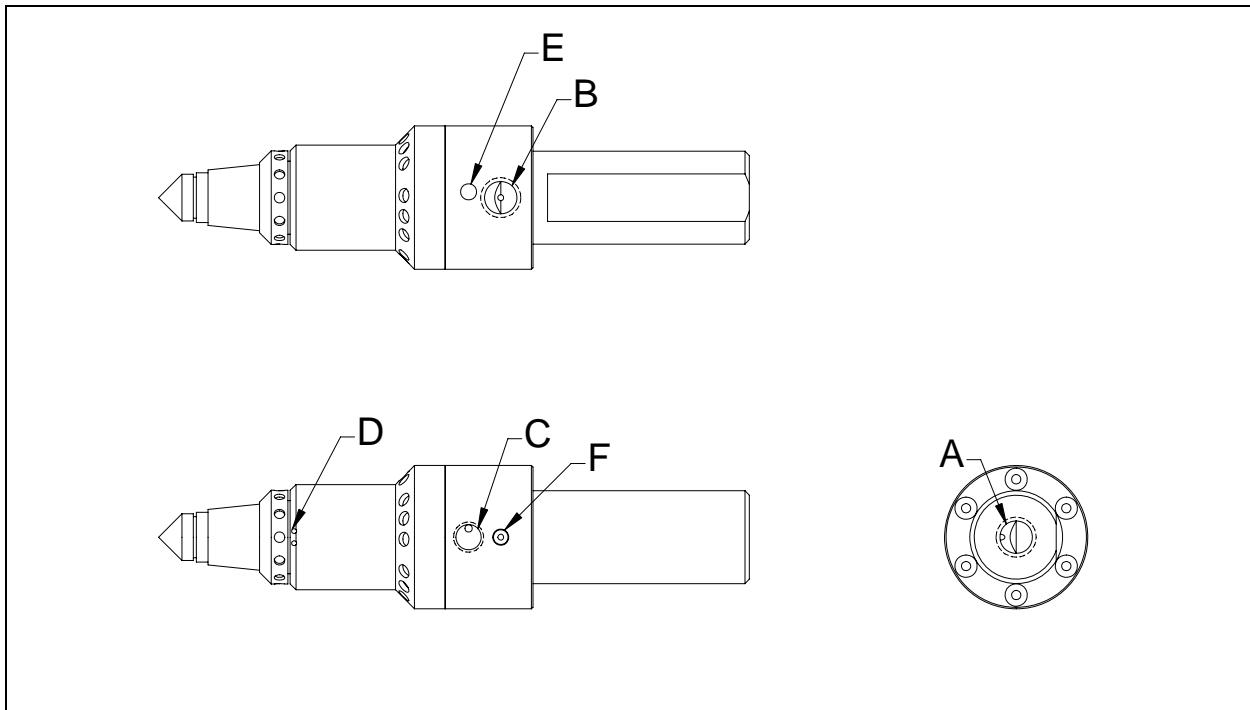

Figure 4.5—Axially-Compliant CNC Deburring Tool Pneumatic Ports
6.3 Pneumatic Connections—Alternate (See Figure 4.5)
7.1 Adjusting the Drive Pressure (See Figure 4.5)
7.2 Adjusting the Axial Force (See Figure 4.5)